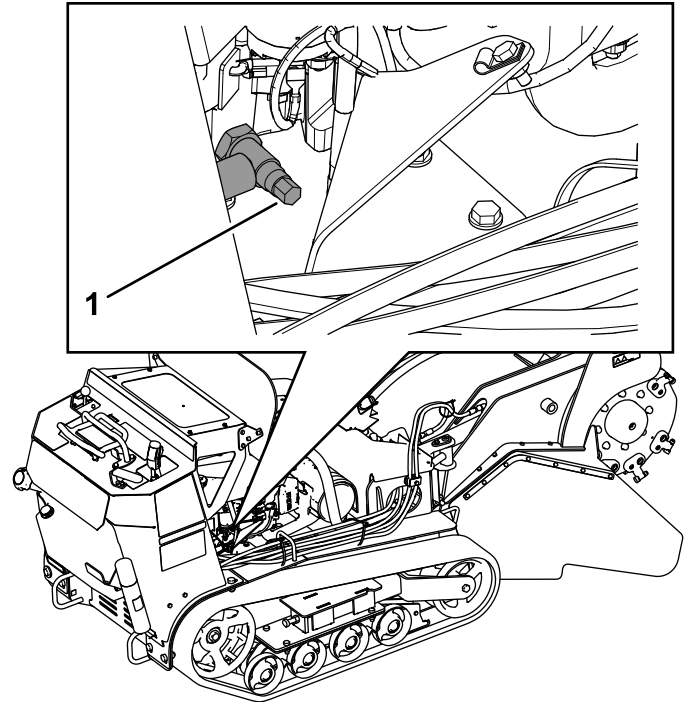
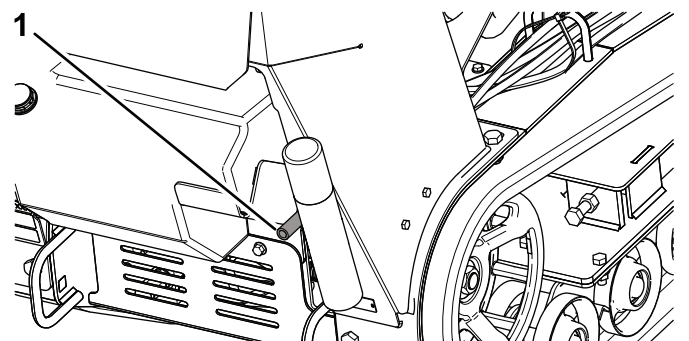

Figure 33
Figure 34
5. Place a pan below the drain hose. Rotate the oil drain valve to allow oil to drain (Figure 33 and Figure 34).